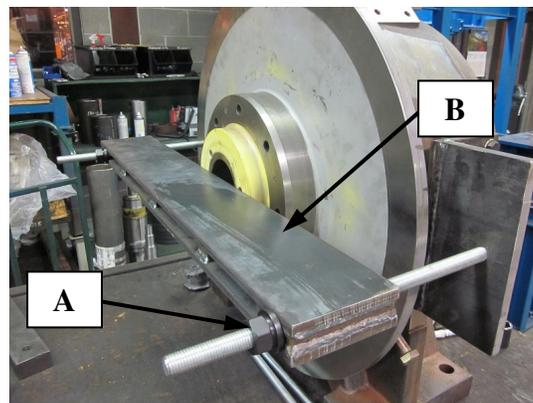

Figure 18
- To press the shaft deeper into the machine, **SLIGHTLY** loosen the heavy duty nuts, "A", on the rotor support bar, "B." This will allow the rotor to move forward slightly to allow room for the shaft to be pressed into the machine past the retainer ring groove. Ensure the rotor support bar remains centered on the rotor. Refer to Figure 18.